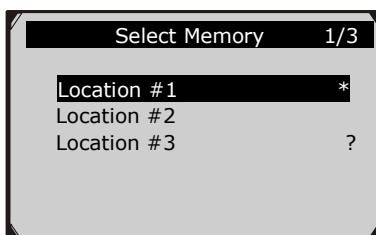

Figure 5.22
- 5) Use the **UP/DOWN** scroll button to select a memory location and press the **OK** button.(Figure 5.22)